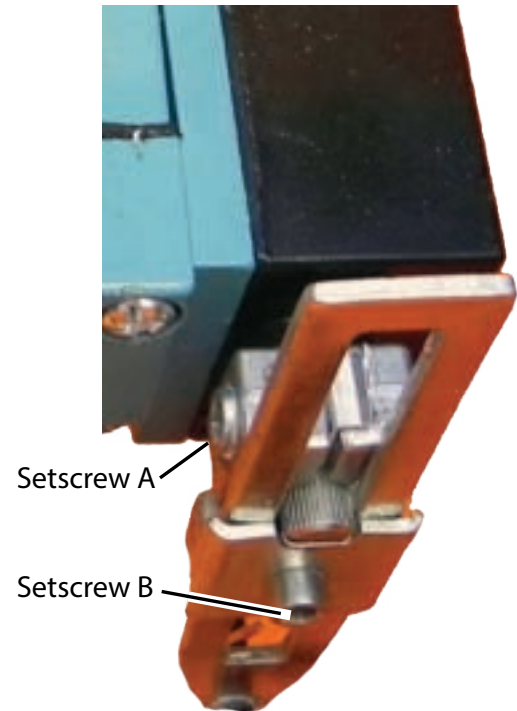

Figure 5-11. Actuator Arm - Setscrew A and B
2. Loosen Setscrew A on the actuator arm. **(Figure 5-11)**
1. Loosen Setscrew B. **(Figure 5-11)**